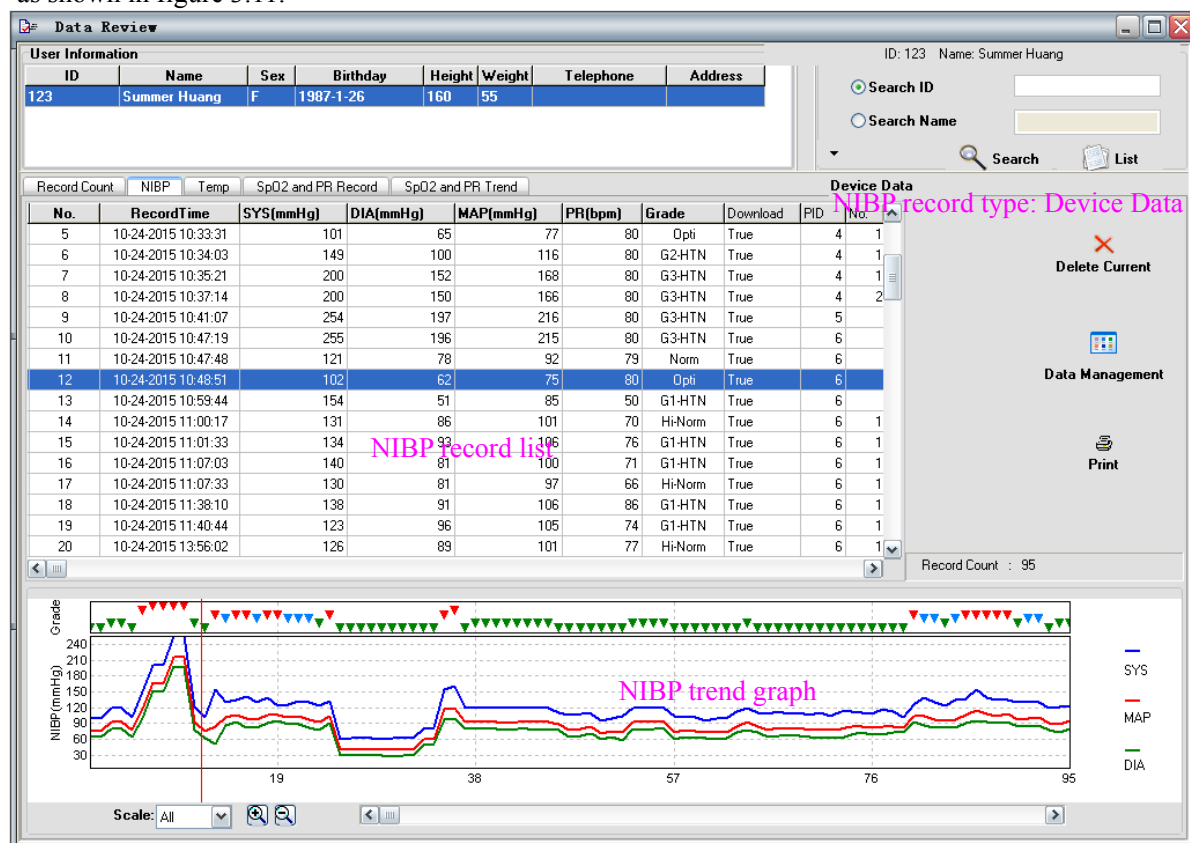

Figure 3.11 NIBP data review (device data)
✧ Click "NIBP" button to enter into NIBP data review window, the example of NIBP record for device data is as shown in figure 3.11.
2. The icons below the NIBP record list is subject to the selected user patient ID, if there is no one/some physiological parameter, then the physiological parameter will not displayed. For example, in figure 3.11, there is no SpO2 parameter, then "SpO2" will not displayed.